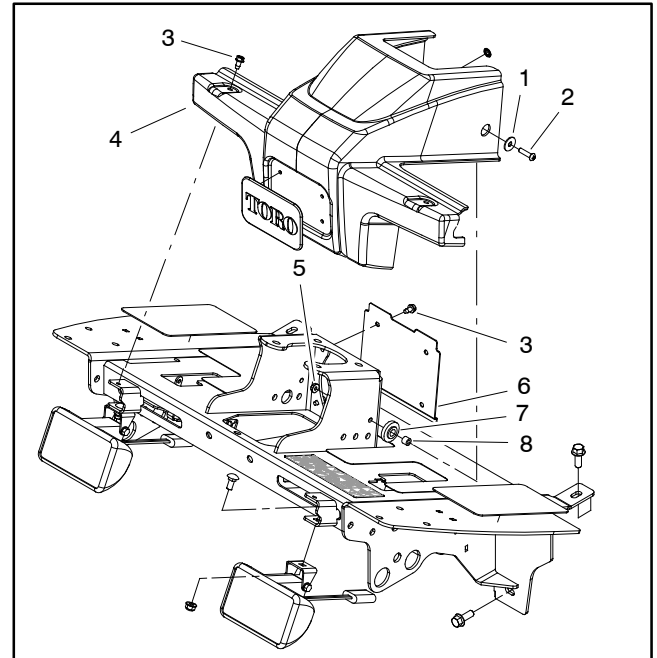
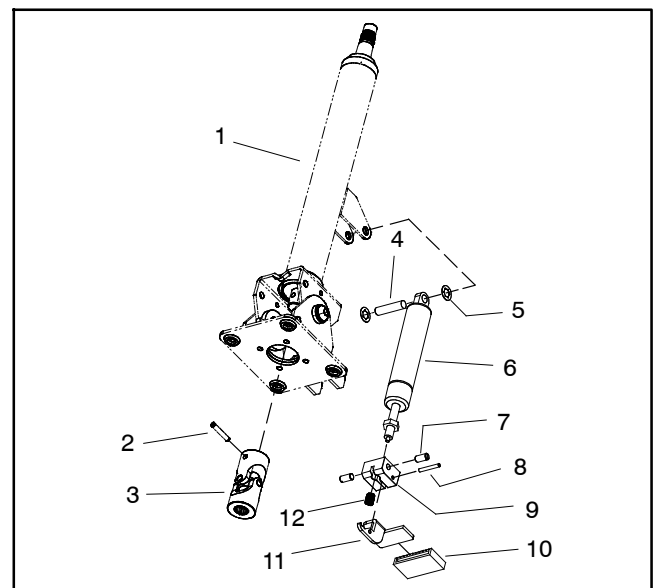

Figure 3
Figure 4
5. Remove platform shroud from machine to allow access to steering column fasteners (Fig. 3).
- D. Locate and retrieve two (2) rubber bushings and spacers.
8. Loosen and remove four (4) socket head screws (item 6) that secure steering control valve to steering column.
9. Loosen and remove four (4) flange head screws (item 15) and flange nuts (item 7) that secure steering column to machine.
11. Disassemble steering column assembly as needed using Figure 4 as a guide.